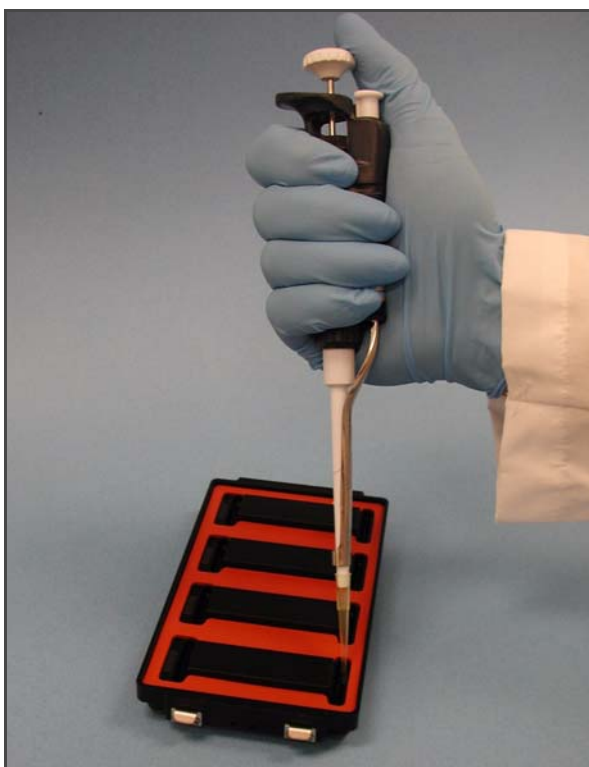

Figure 23 Dispense HCB into BeadChip Hyb Chamber Reservoir
3. Add 200 μ l HCB into the eight humidifying buffer reservoirs in the Hyb Chamber (Figure 23). If you are hybridizing fewer than four BeadChips, only fill the reservoirs of sections that will contain BeadChips.